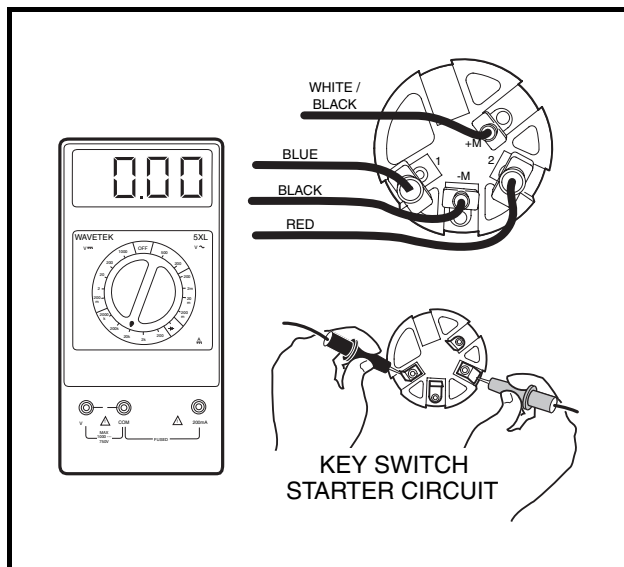

Figure 11-13 Test Key Switch – Engine Starter Circuit
4. Insert the key and turn the switch to ON. Place the red (+) probe of the multimeter on the No. 2 terminal and the black (–) probe on the No. 1 terminal of the key switch. The reading should be continuity. If the reading is incorrect, replace the key switch (Figure 11-13, Page 11-17).